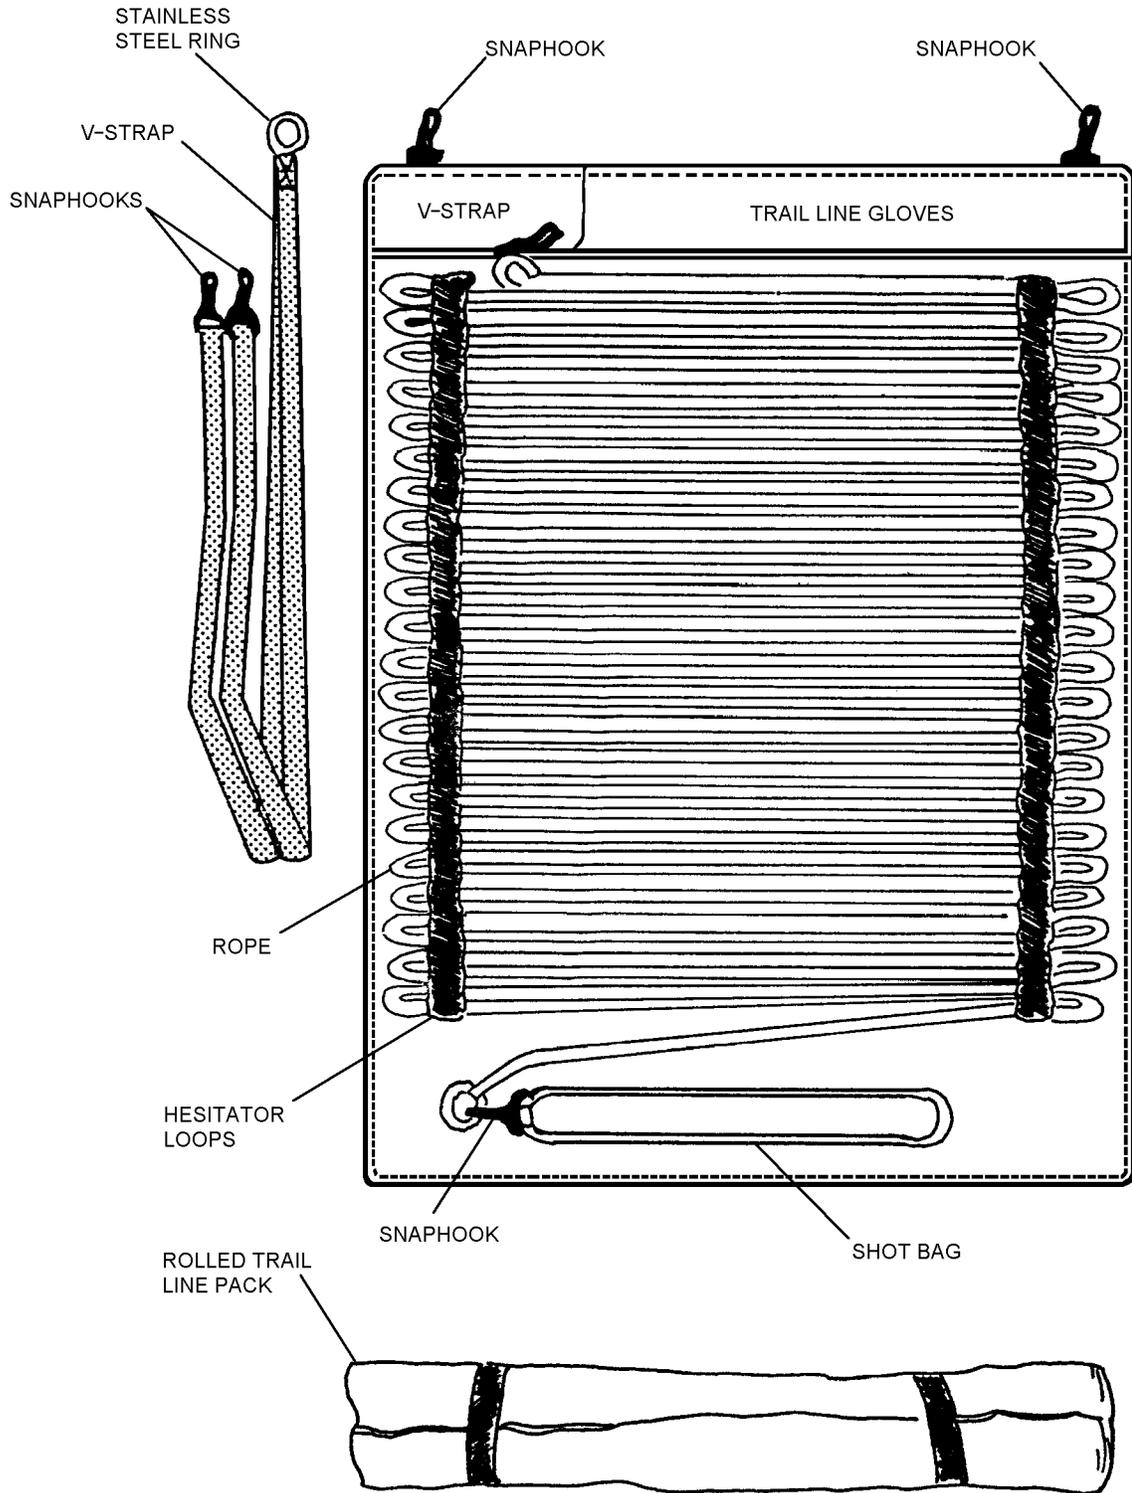

Figure 14-23. Trail Line Assembly
1. Stow rope in hesitator loops as shown in figure 14-23.